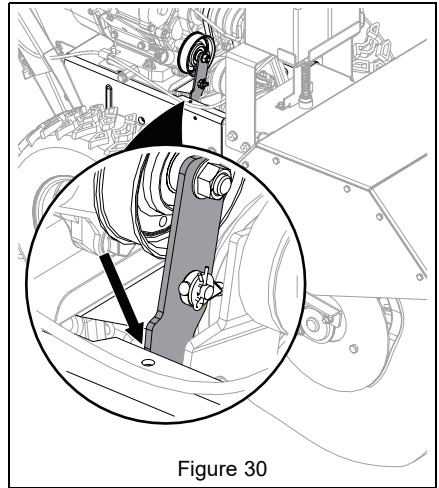

Figure 30
6. With the traction clutch disengaged, make sure idler arm lightly touches the frame. See Figure 30.